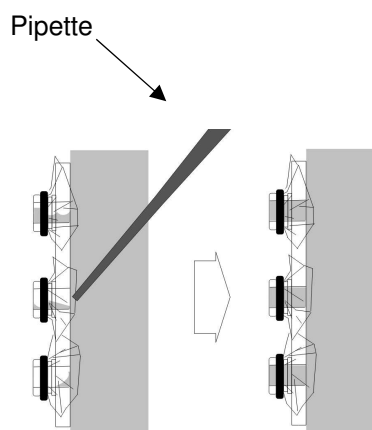

Fig. 6 Clearing air bubbles
3. Check if there are no bubbles remaining in the holes. If any air bubble remains, clear it by sending some amount of copper sulfate solution into the holes with the pipette (Fig. 6).